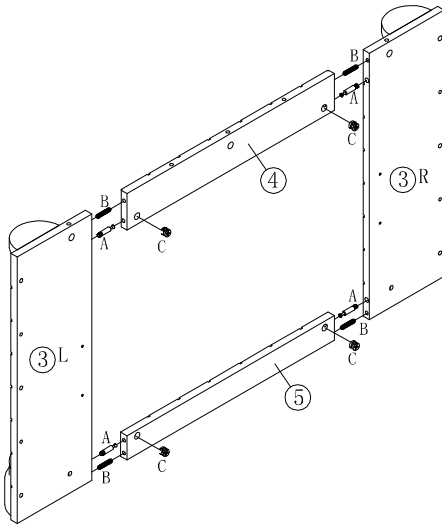

Figure 1
INSERT 4PCS WOOD DOWEL (B) & 4PCS CAM BOLT(A) ONTO CORRESPONDING HOLE OF LEFT AND RIGHT FRONT PANEL(3), THEN INSERT 4PCS CAM-LOCKS (C) INTO BIG HOLES OF UPPER&BELOW FRONT PANELS(4.5) WITH SLOT FOR SCREWDRIVER FACING OUTWARD. ROTATE CAM-LOCKS (C) CLOCKWISE TO SECURE CAM-BOLTS (A). AS FIGURE1 SHOWN.